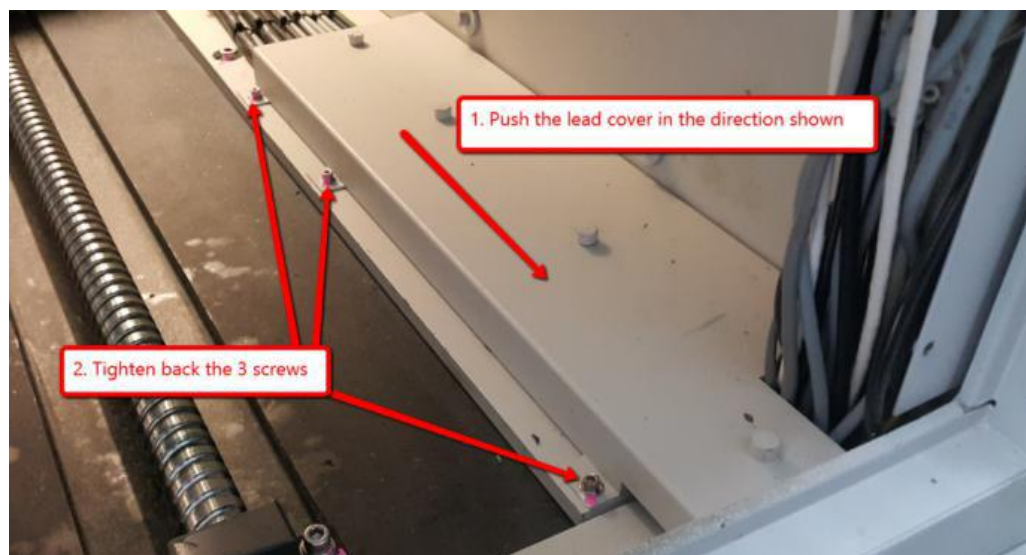

Figure 34
15. Close back lead cover and tighten up 3 screws as shown in Figure 34.